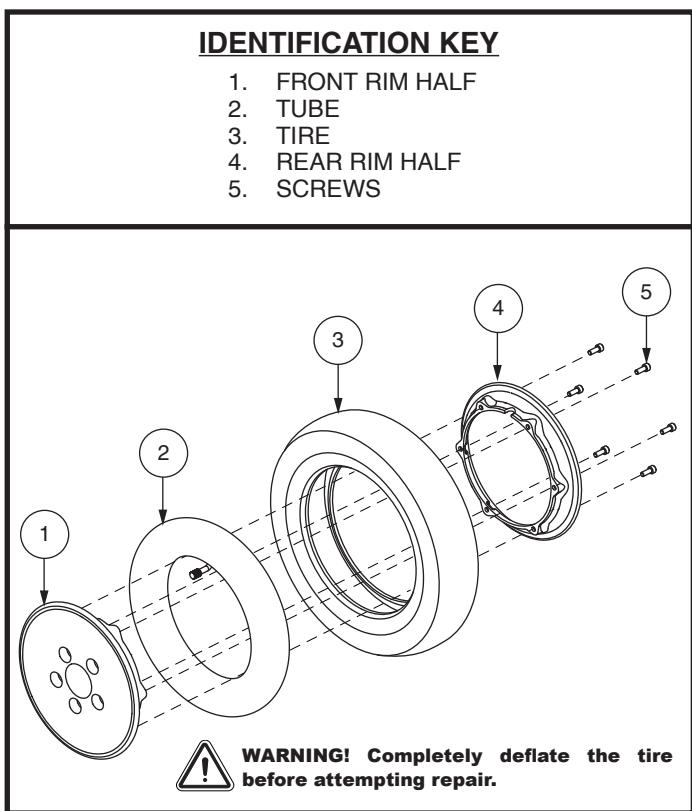

Figure 20. Pneumatic Drive Wheel Disassembly/Assembly
6. Remove the screws and separate the rim halves. See figure 20.